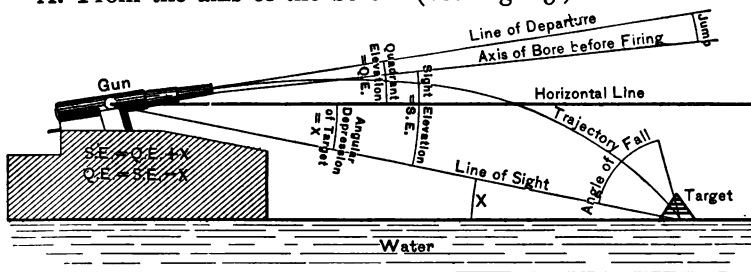

FIG. 63
A. From the axis of the bore. (See Fig. 63.)
A. The angle between the axis of the bore before firing and the line of sight. (See Figs. 63 and 64.)
A. The angle between the axis of the bore before firing and the horizontal plane. (See Figs. 63 and 64.)